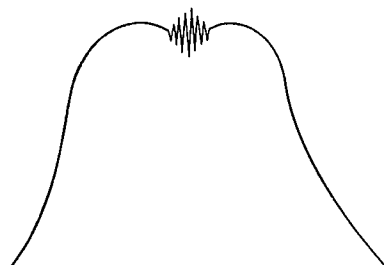

Fig. 8. Marker pattern.
10. With the blanking set to "off" adjust the phase control to obtain a single pattern as illustrated in Fig. 8.